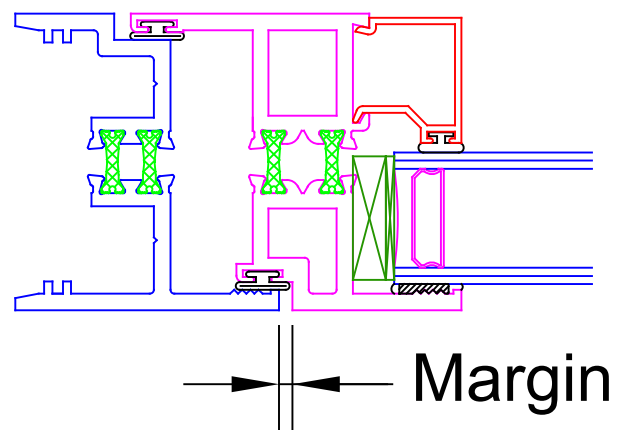

Figure 12
Note: The margins between the vent and the frame need to be even around the perimeter of the vent (See figure 12).
- B. Look at the margin between the vent and the the frame (See figure 12). If the margin is not even around the perimeter of the vent, the window will need adjustment. Determine which direction the vent needs the adjustment. The vent needs uniformly centered in the frame.